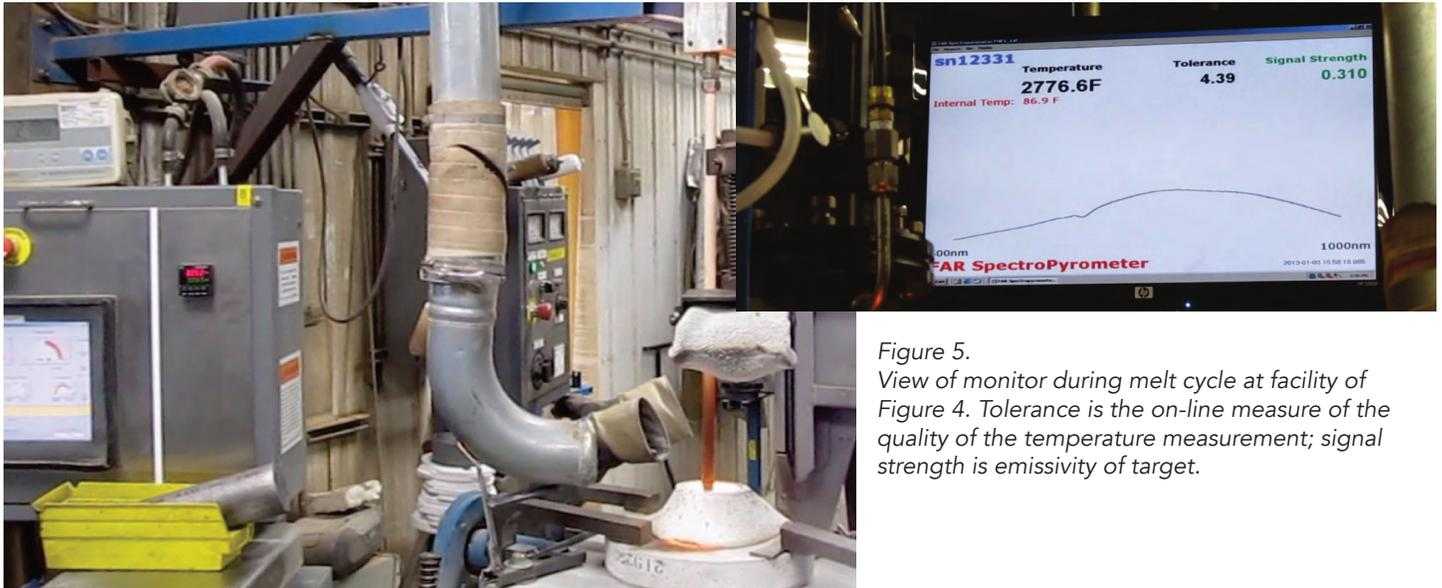

Figure 4. Spectropyrometer optical probe with ceramic tube for smoke suppression in measuring position.
Spectropyrometers have been commercially available for fifteen years, and have been successfully applied to IC since 2006. Figure 4 shows the setup for a Spectropyrometer controlling an air-melt rollover furnace. A ceramic tube connected to the pyrometer lens is brought to close proximity of the melt surface and is purged with argon to remove obstructing smoke. Resulting data show a smooth temperature ramp and stable hold within a few degrees.4
Figure 5 is a screen shot of the Spectropyrometer's monitor during a cycle at the facility shown in Figure 4. The Tolerance displays the quality of each temperature measurement in real time. Low tolerances, as shown, mean the temperature is well-known. The Signal Strength is the emissivity of the target, in this case the melt. The value shown is typical of a liquid metal (0.15 – 0.45). Slags have higher values, usually greater than 0.5.5
Figure 5. View of monitor during melt cycle at facility of Figure 4. Tolerance is the on-line measure of the quality of the temperature measurement; signal strength is emissivity of target.
- 3 "Successful Pyrometry in Investment Casting" D. M. Olinger, J. V. Figure 4. Spectropyrometer optical probe with ceramic tube for smoke suppression in measuring position. Figure 5. View of monitor during melt cycle at facility of Figure 4. Tolerance is the on-line measure of the quality of the temperature measurement; signal strength is emissivity of target. Gray, R. A. Felice, Proceedings of the Investment Casting Institute 55th Technical Conference, Oct. 14 – 17, 2007